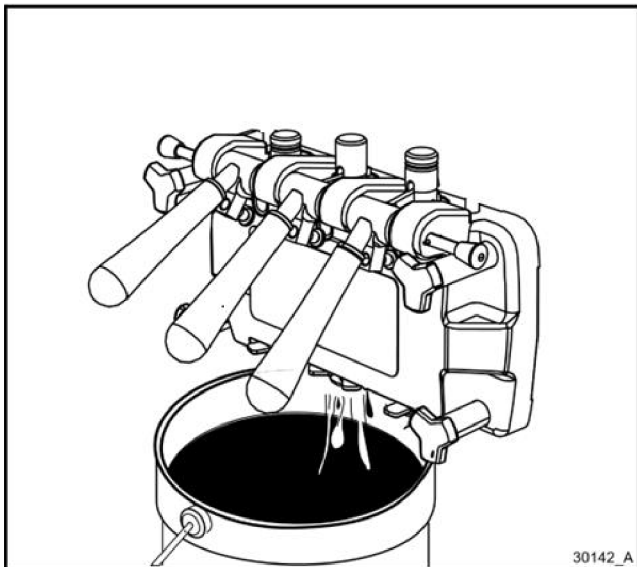

Figure 5-15
- With sanitized hands, replace the feed tube into the mix hopper. (Figure 5-15.)